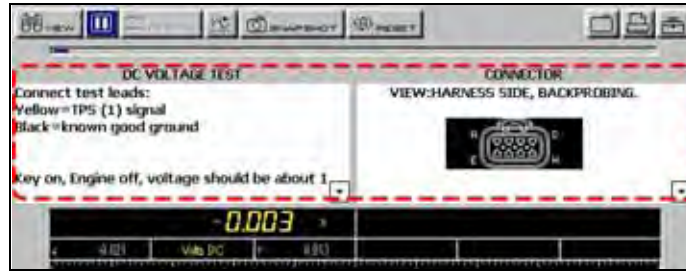

Figure 4-14 Sample connection instructions
- Follow the on-screen connection instructions (Figure 4-14).